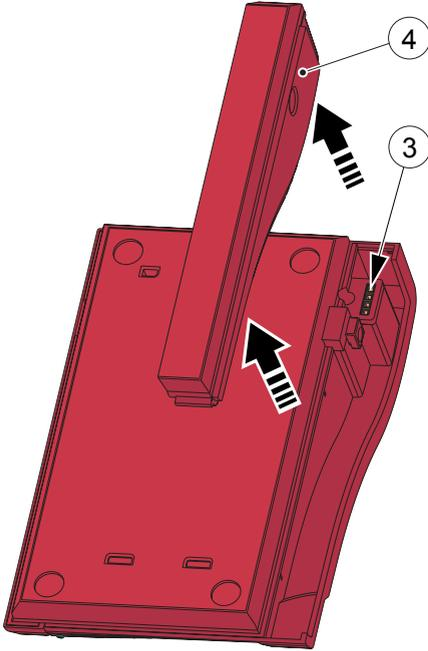
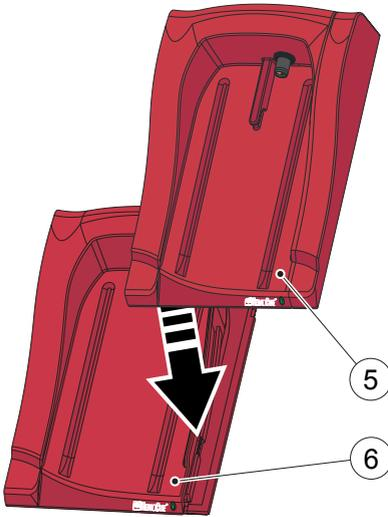

FIGURE 3-15
FIGURE 3-16
d) If more Secondary Docking Stations are to be added, remove the Side Trim from the previously added Docking Station and the bottom trim of the new Secondary Docking Station, as shown in *FIGURE 3-14* and *FIGURE 3-15* . Repeat the procedure in *FIGURE 3-16* with the new Secondary Docking Station.